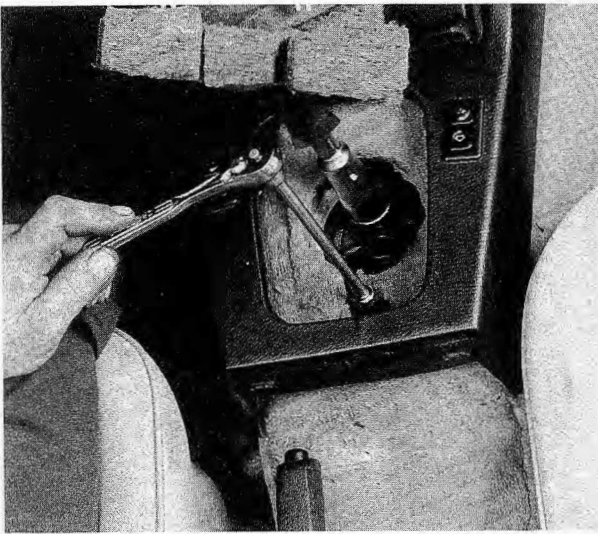

Fig. 4-7. Console mounting nut being removed.
6. Remove the insulation material and then remove the console mounting nut, shown in Fig. 4-7.